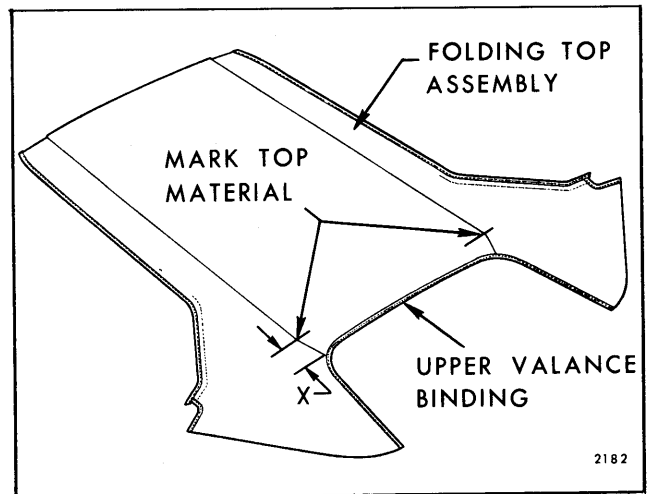

Fig. 13-18—Marking Top Material
20. Using a pencil, mark top material (mark should be approximately 1/2" in length) at deck seam 5-1/4" on "B, C & F" and 5-3/8" on "A" and 4" on "Z" Styles from edge of top material upper valance binding. (See dimension "X" in Fig. 13-18.)